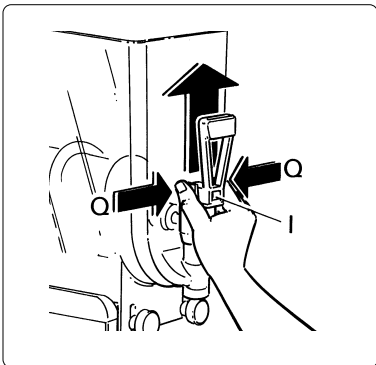

Fig. 12
- simultaneously press the two securing tabs (Q), then lift the tap (I) to extract it from its lodging (see fig. 12).